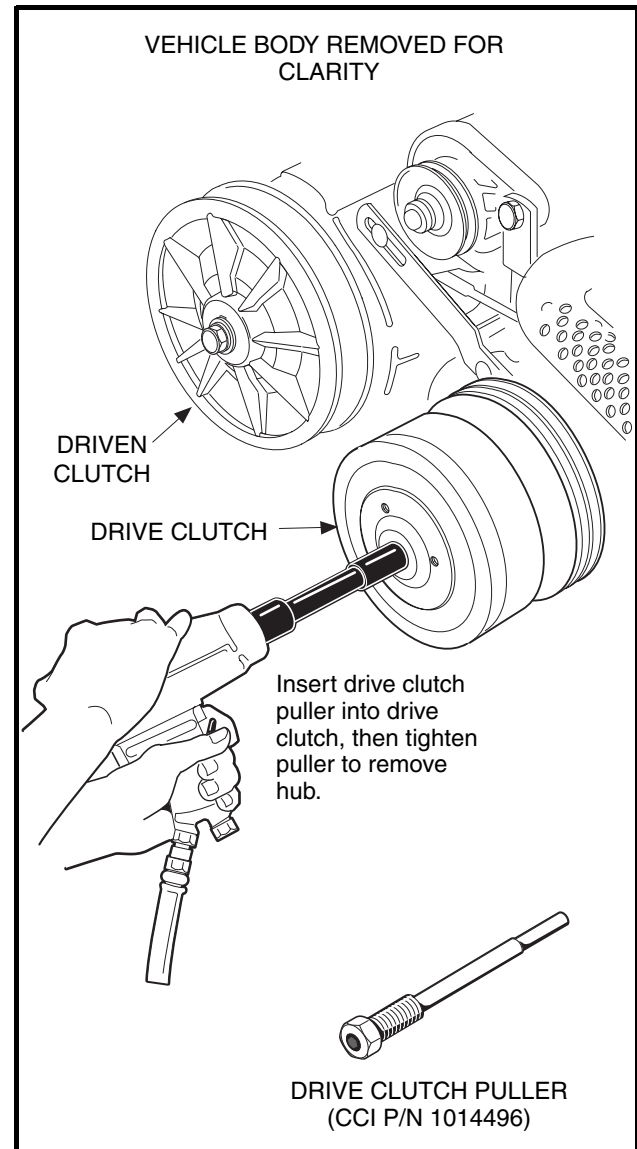

Figure 20-4 Drive Clutch Removal
6. Use a 1/2-inch drive air wrench to tighten the clutch puller tool. The drive clutch will come free of the crankshaft (**Figure 20-4, Page 20-4**).